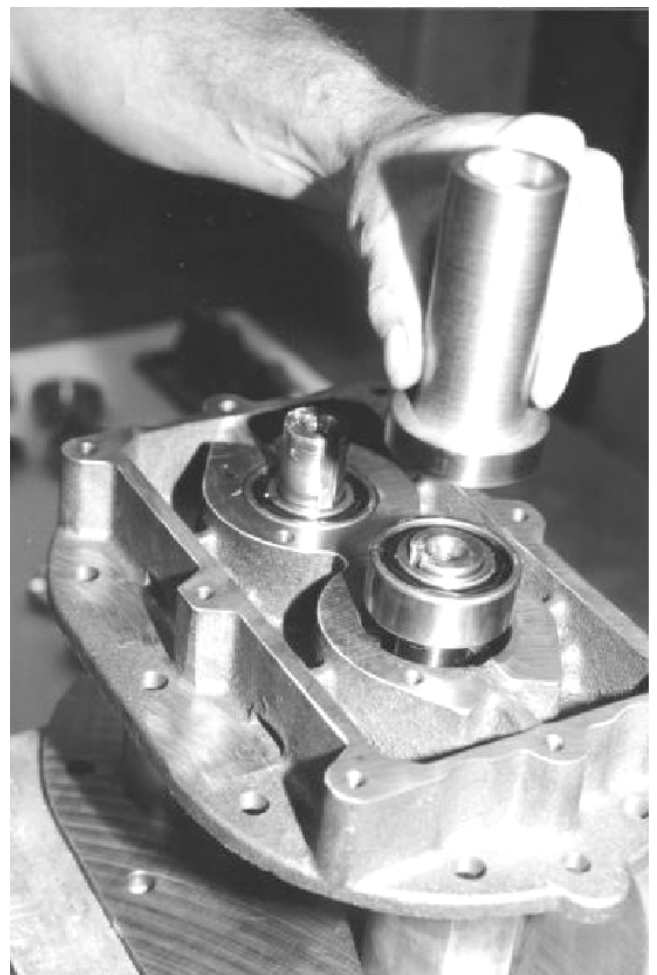

Figure 14. Tapping Bearings Into End Plates.
- e. Apply a thin coat of lubricant on the rotor shafts and the inner race of the bearings. Tap the bearings [13] into place using a tube with a flanged end that will contact both the inner and outer bearing races. Refer to Figure 14 below.